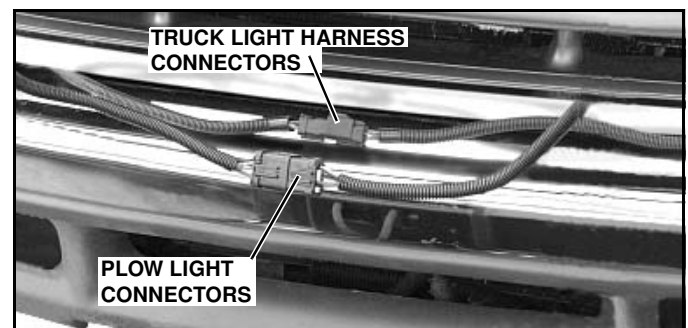

Figure 1-33
1. Unplug EIS® light harness connectors on truck, and disconnect plow light connectors, which had been plugged together for corrosion protection during storage. (See Figure 1-33).